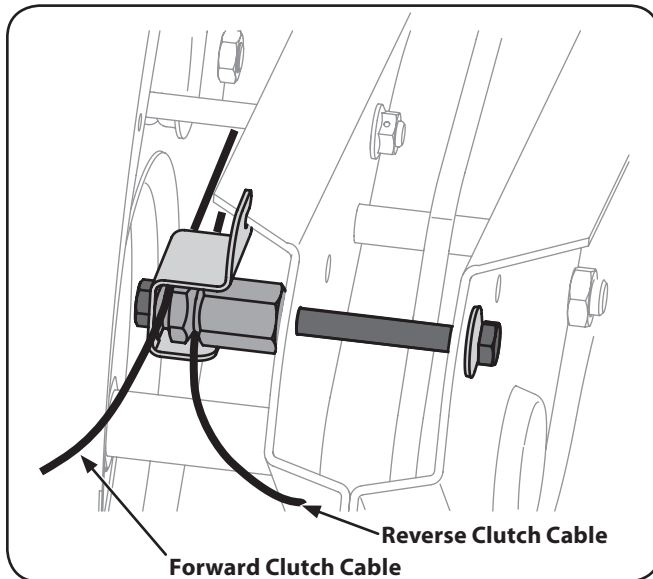

Figure 3-1
1. Identify the forward clutch cable and reverse clutch cables. Fig. 3-1.